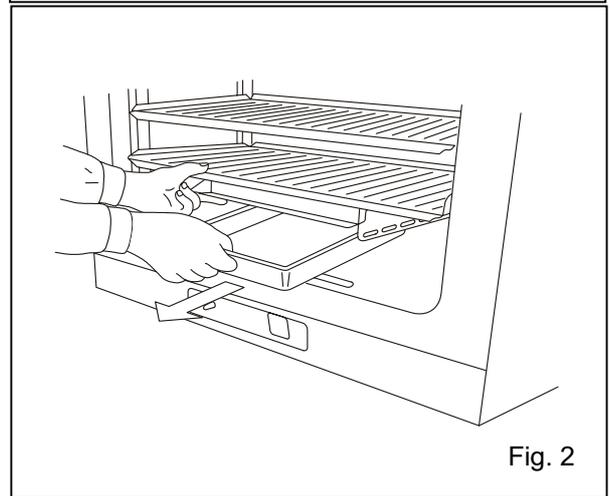

Fig. 2
4. Remove all tray supports on the right and left side by lifting up the front side. See Fig. 2.
2. Pull out the humidifying pan toward you. See Fig. 2.